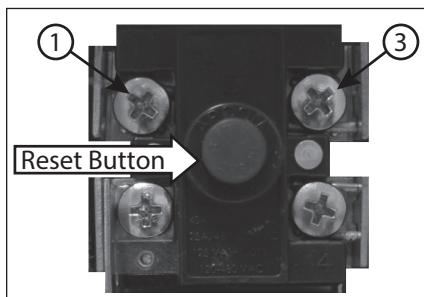

Figure 33 - Energy Cut Off (ECO) Button.
- Press the red ECO reset button (Figure 33).